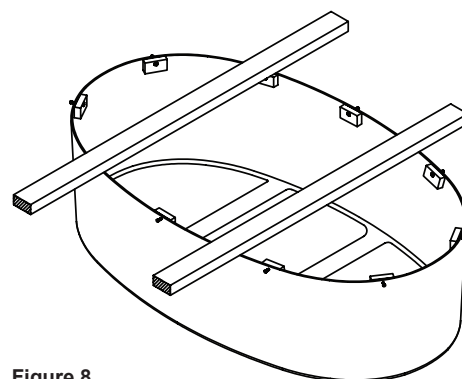

Figure 8
- 2 Place two, five foot long 2x4" supports across the top of the skirt. Spread the wooden supports evenly over the skirt as illustrated (Figure 8). They will support the bath during the connection of the water supply, drain/overflow, and during adjustment of the ten fasteners.